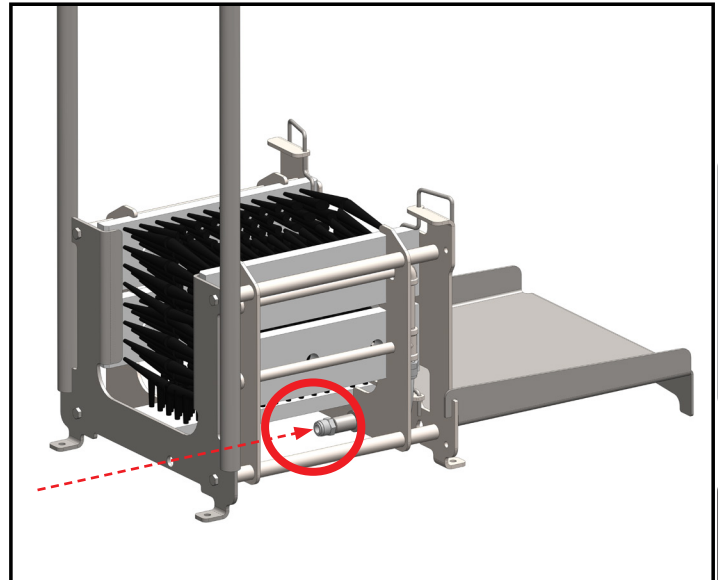

Fig. 5.1: Water line of BLX-100W
3. Using the push to connect fitting, connect the Venturi system to the BLX's water line located under the unit, near the foot plate [Figure 5.1]